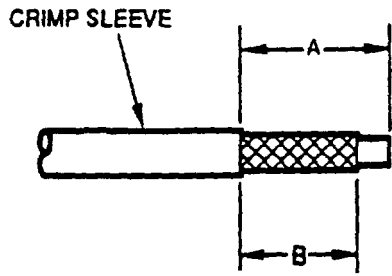

Figure 5. Cable Strip Length
b. Slide crimp sleeve over cable. Using coaxial cable stripper, strip jacket dimension A from end and trim shield to dimension B from jacket, as specified in Table 1 and Figure 5.